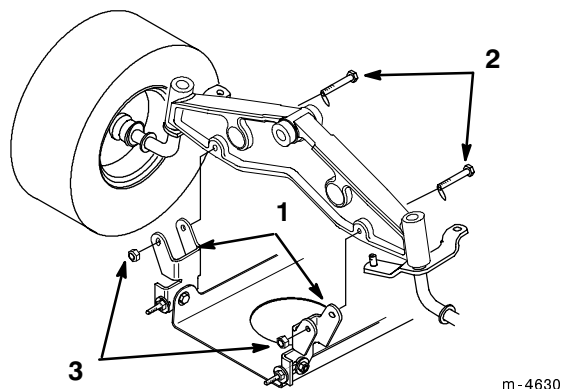

Figure 45
5. Install the mower pivot mount brackets to the front axle with bolts and locknuts (Fig. 45).